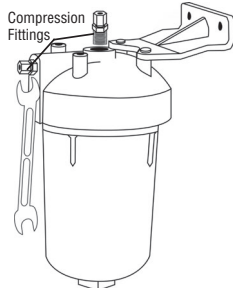

Figure 4
- Screw one fitting into the filter outlet (top) and the other fitting into the filter inlet (side). Tighten both fittings with a wrench. Do not overtighten. (Figure 4)